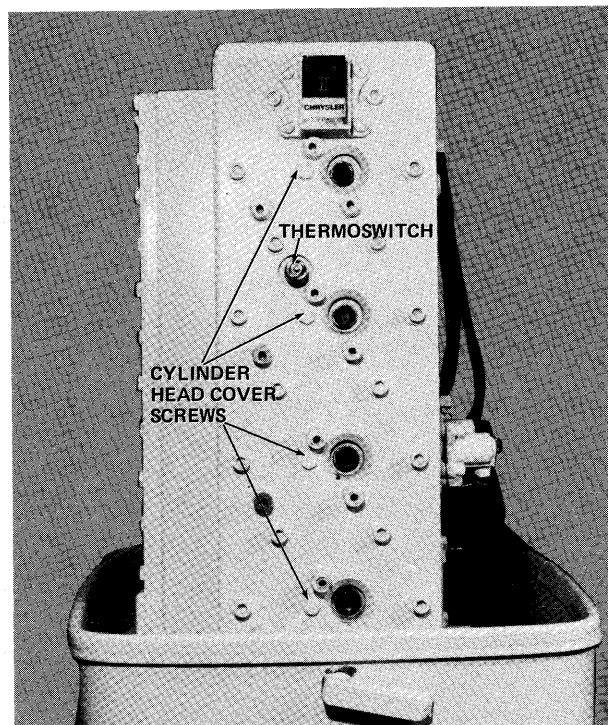

Figure 1B - Location of Cylinder Head Cover Screws
- E. Remove eighteen (18) bolts and plain washers securing cylinder head assembly to powerhead. Remove cylinder head assembly and gasket from powerhead.
- F. Remove four (4) hex head screws and thermostat securing cylinder head cover to cylinder head. See figure 1B. Remove cylinder head cover and cylinder head plate from cylinder head.